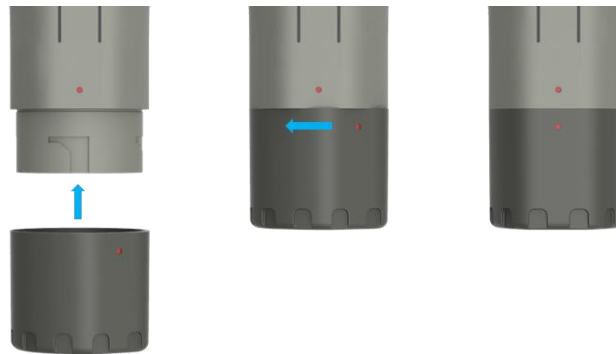

Figure 3.4.4. Close the end cap.
2. Close the cap by twist counter-clock wise. The two red dots should be aligned (figure 3.4.4.)